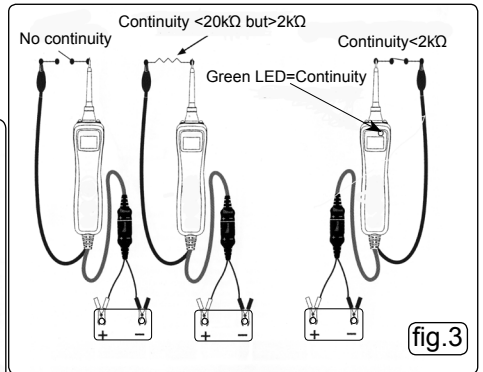

fig.3
3.6 Continuity Testing. See fig.3.